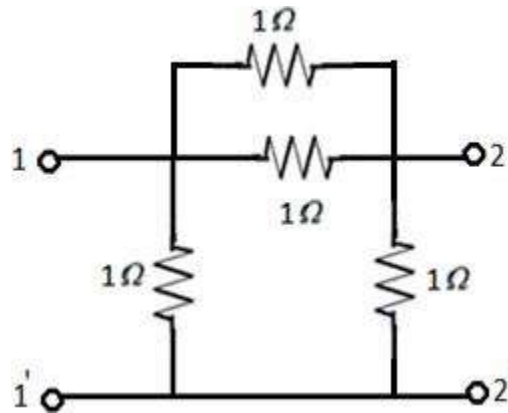

Figure: 4
b) For the network shown in figure 4, determine impedance parameters. [7+8]